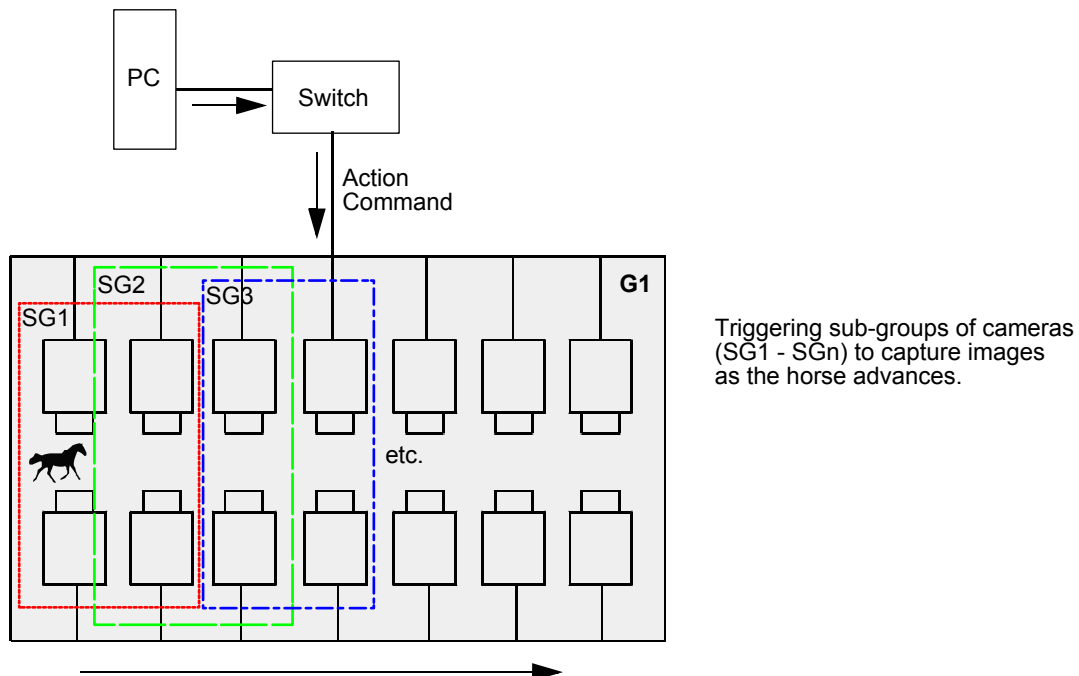

Fig. 62: Example Setup: Analyzing the Movements of a Horse
To analyze the movement of a horse, multiple cameras are installed parallel to a race track. They form a group of cameras (G1, see Fig. 62).
When the horse passes, four cameras positioned next to each other (sub-group SG1 in Fig. 62) synchronously execute an action (in this example: image acquisition).
As the horse advances, the next four cameras (sub-group SG2 in Fig. 62) synchronously capture images. One sub-group follows another in this fashion until the horse reaches the end of the race track. The resulting images can be combined and analyzed in a subsequent step.
- The group of cameras in a network segment that is addressed by the action command. In Fig. 62, this group is G1.
- The sub-groups in the group of cameras that capture images synchronously. In Fig. 62, these sub-groups are SG1, SG2, SG3, and so on.